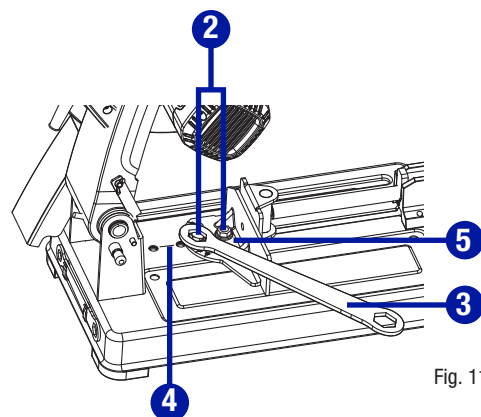

Fig. 11
- Loosen two mitre gauge cap bolts (2) by turning them counter-clockwise using the arbour wrench (3) supplied. (Fig. 11)
- Rotate the mitre gauge (4) to the left or right until the desired cutting angle lines up with the alignment mark (5). (Fig. 11)